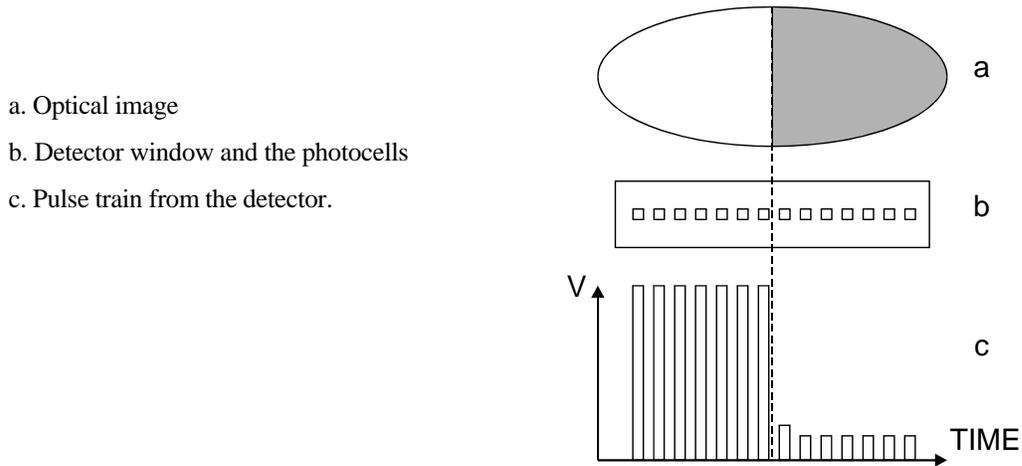
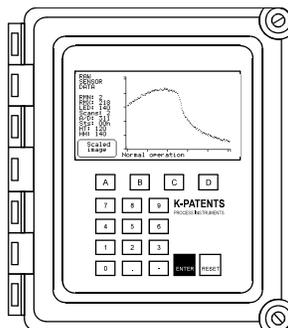
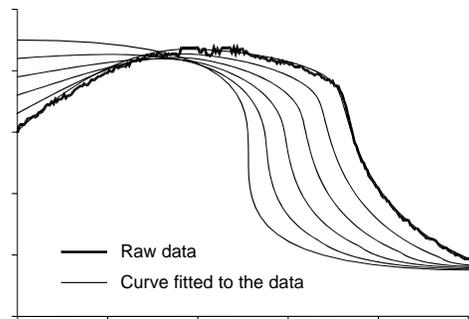
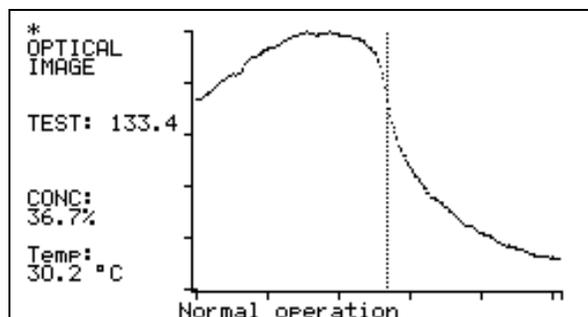

Figure 2.41 Image detector system.
Figure 2.50 The Indicating transmitter.
Figure 2.52 Image analyzing algorithm.
Figure 2.72 The Optical Image.
The image detector output is a pulse train as shown in Figure 2.41. This number of high pulses corresponds to the position of the shadow edge in the optical image. The number of high pulses is a direct measure of the critical angle. The image digitizer (E) transforms this pulse train to a serial digital signal. This serial signal transmits a package containing a complete description of the optical image and temperature data to the Indicating transmitter.
The Indicating transmitter (Figure 2.50) receives a serial signal from the Sensor describing the optical image and also giving the process temperature. The microprocessor system displays the optical image (Figure 2.72) and implements an image analyzing algorithm (Figure 2.52), which identifies the exact position of the shadow edge shown in Figure 2.41.
Shows the Optical Image, Figure 2.72. The light area (high pulses) is to the left, the dark area (low pulses) is to the right, compare to Figure 2.41. The vertical scale is 0-100 % of highest pulse amplitude, the horizontal scale expresses the numbers of the photocells 0-256. The three leftmost pulses represent additional dark reference cells.